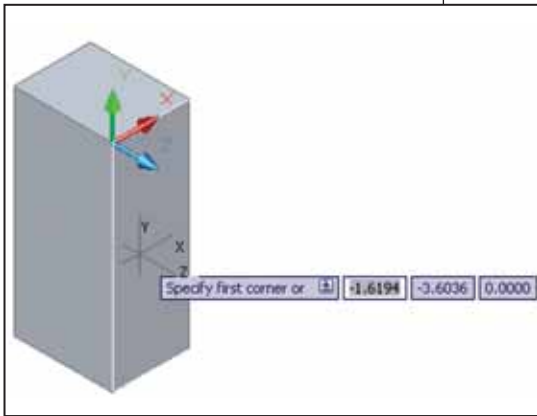

Figure 2. New dynamic input tools add a Z coordinate.
- Dynamic Input now adds in a Z coordinate field when using dynamic input (Figure 2).